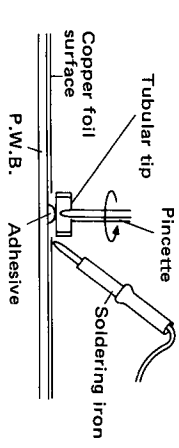

Figure 20-2
- Holding the tip with a pincette, take it off gently using the soldering iron's heat applied on each terminal of it. See Fig. 20-2.